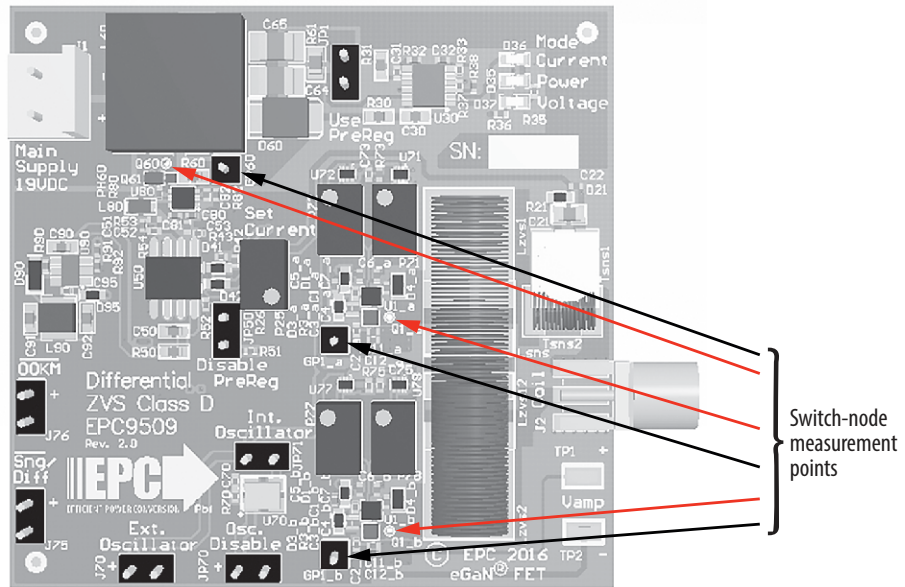

Figure 4: Proper measurement of the switch nodes using the hole and ground post
3. Connect a LOW capacitance oscilloscope probe to the probe-hole of the half-bridge to be set and lean against the ground post as shown in Figure 4.
1. When measuring the high frequency content switch-node (Source Coil Voltage), care must be taken to avoid long ground leads. An oscilloscope probe connection (preferred method) has been built into the board to simplify the measurement of the Source Coil voltage (shown in Figure 4).